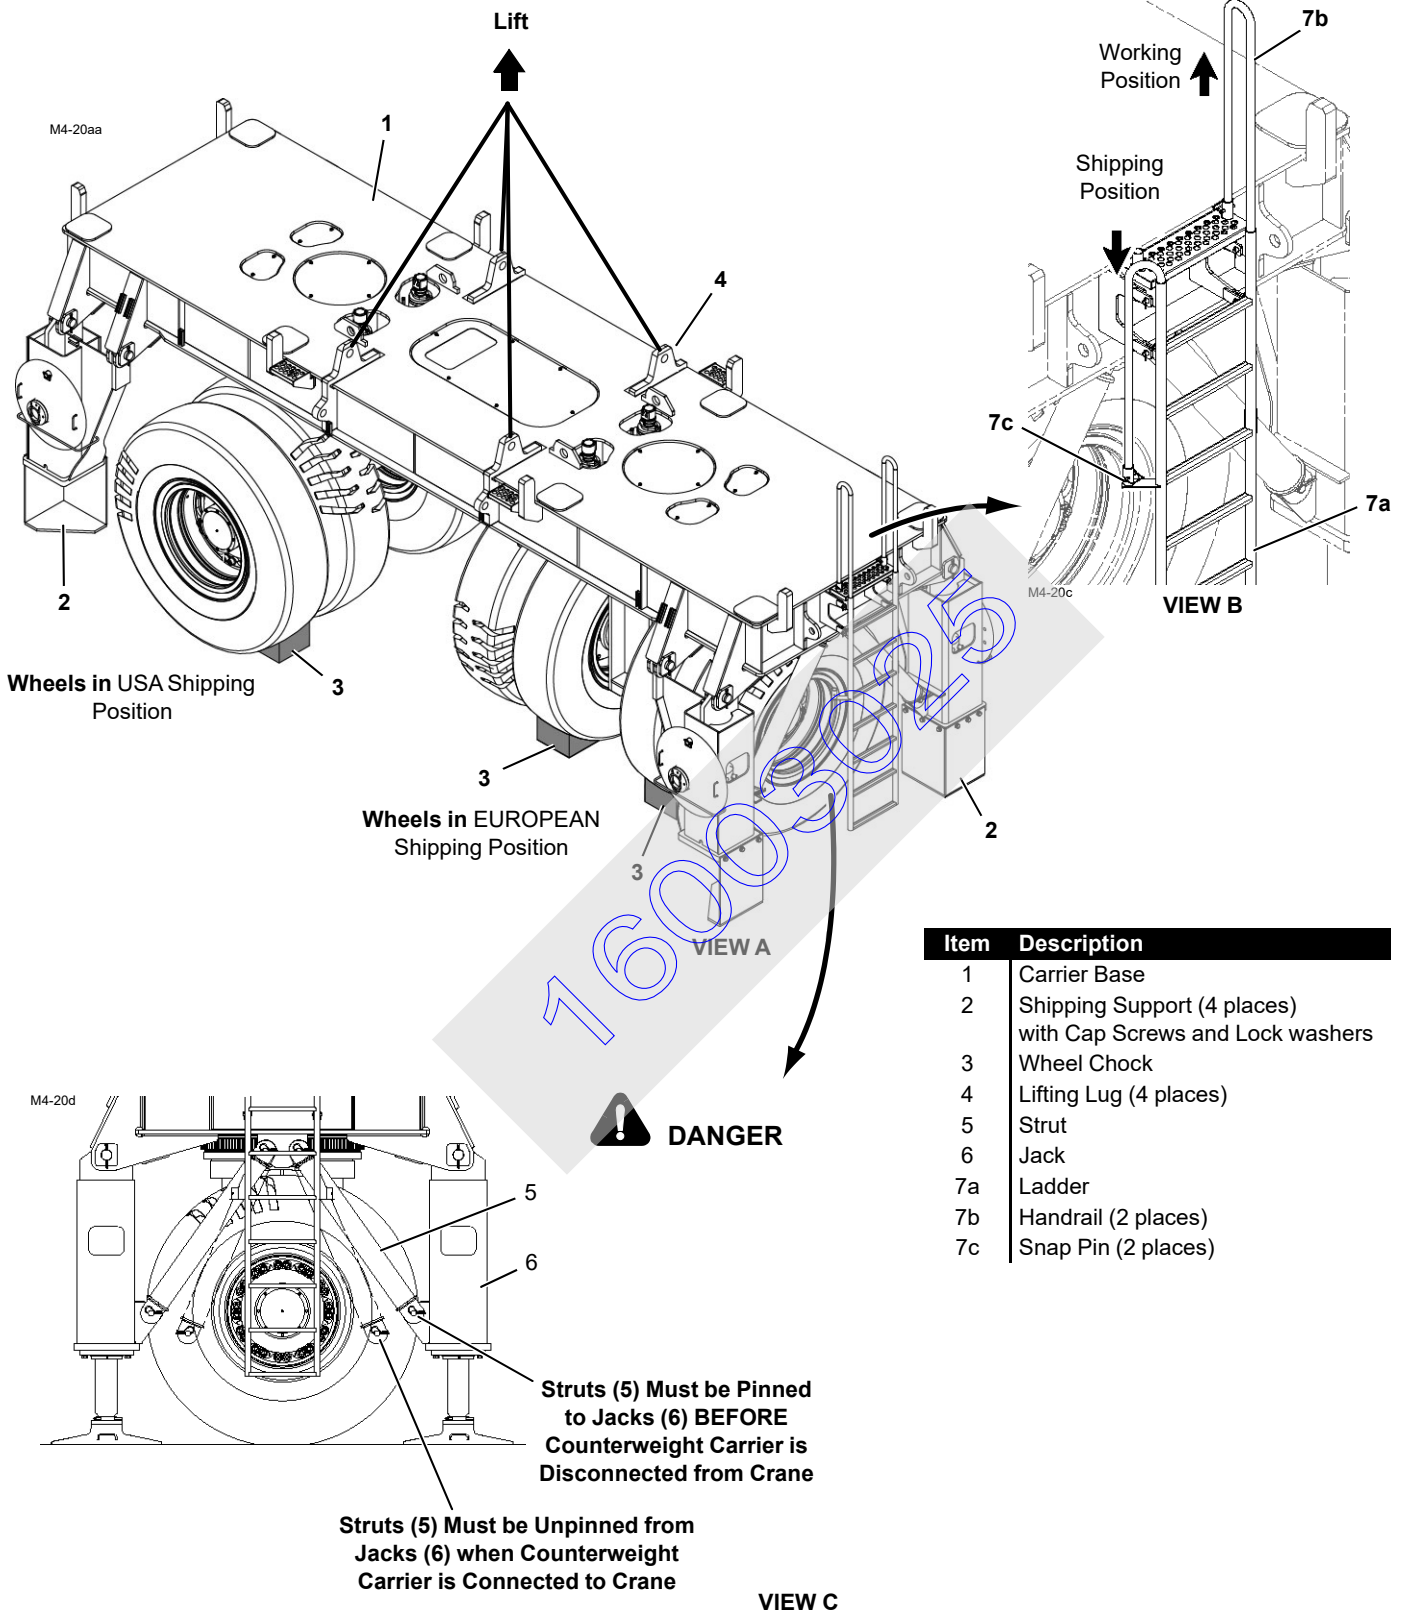

FIGURE 4-25
**Carrier base (1, Figure 4-25) must be supported by shipping supports (2) or by jacks (3) with jack pads installed.**
See Figure 4-25 for the following procedure.